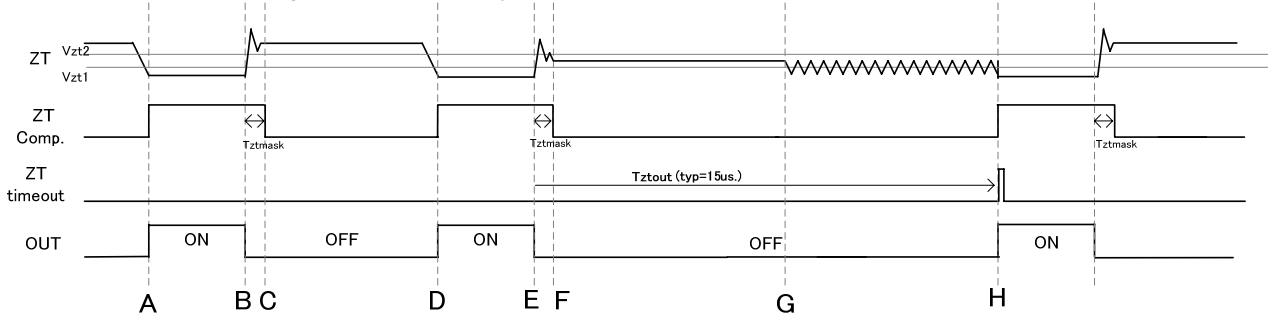

Figure 19. ZT timeout function
**(7) ZT timeout function (Figure 19.)**